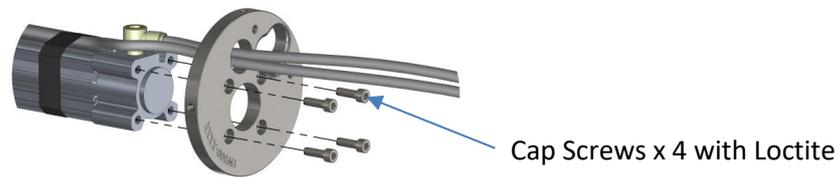

Figure 14
- Refit Back Mount Plate to Cylinder. Feed airlines through hole in Backplate as shown in Figure 14. Use medium strength Loctite.